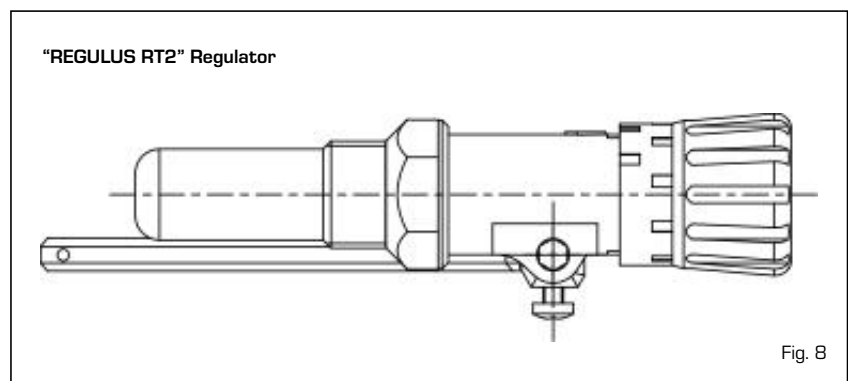

Fig. 8
4.6.2 "REGULUS RT2" Regulator (fig. 8)
and 90°C (fig. 8). Follow the same instructions of the "Thermomat" regulator for the assembly and the activation.